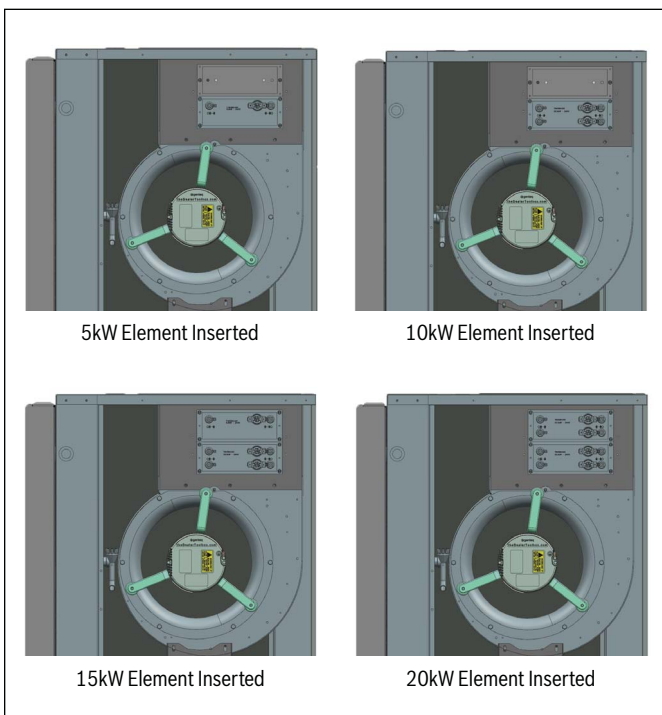

Figure 25
8. The installed heating elements should look like the following for each kit (figure 25):